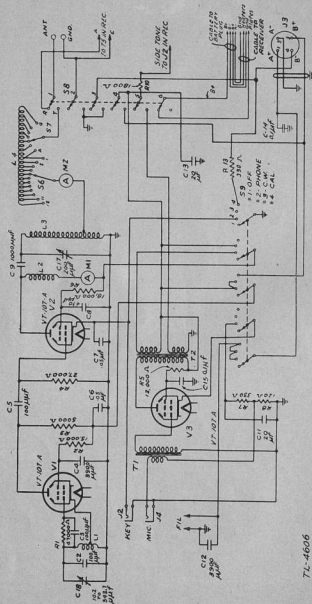

FIGURE 13.—Transmitter—schematic diagram.
11. Transmitter unit.—*a. Electrical characteristics.*—The transmitter unit is designed to operate within the frequency range of 3,500 to 6,300 kilocycles and to deliver into the antenna 4 watts of power for either voice-modulated emission or c-w emission. The schematic and wiring diagrams of the transmitter unit are given in figures 13 and 31, respectively.
b. To remove receiver and transmitter from cabinet.—If the trouble is not located by the preliminary checks, remove receiver-transmitter from the cabinet as outlined in (1) to (4), inclusive, below, and then make the checks indicated in *c* and *d* below.
(1) Remove antenna and counterpoise; withdraw key, microphone, and battery cable plugs.
(2) Detach stay-joint from cabinet sides and lower the lid out of the way.
(3) Loosen the eight knurled-head panel screws until they clear their threaded seats in the cabinet. Do not withdraw screws completely.
(4) Slide panel forward, withdrawing chassis from the cabinet. Place chassis on top of the cabinet or on some other flat surface.
d. Circuit checks.—Defective components can be located by voltage and continuity checks. For voltage checks refer to schematic diagram (fig. 13), wiring diagram (fig. 31), and (1) below. For continuity checks, refer to figures 13 and 31 and (2) below.
(f) Generator voltage adjusted so that voltage between B+ and B- (fig. 13) is 295 volts when the conditions given above exist. For the method of adjusting the generator voltage see paragraph 18a.